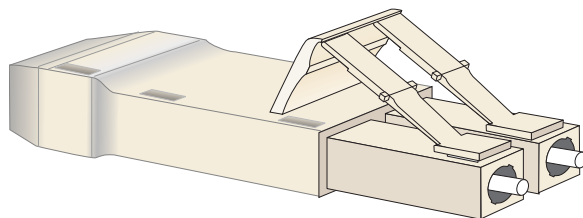

Figure 3: Loopback plug
- **Loopback plug**—An SFP multi-mode (shortwave laser) or single-mode (longwave laser) loopback plug as shown in Figure 3 is required to perform port loopback diagnostic tests. One loopback plug is shipped with the switch, depending on the type of port transceivers installed. Both plugs are shipped if shortwave laser and longwave laser transceivers are installed.